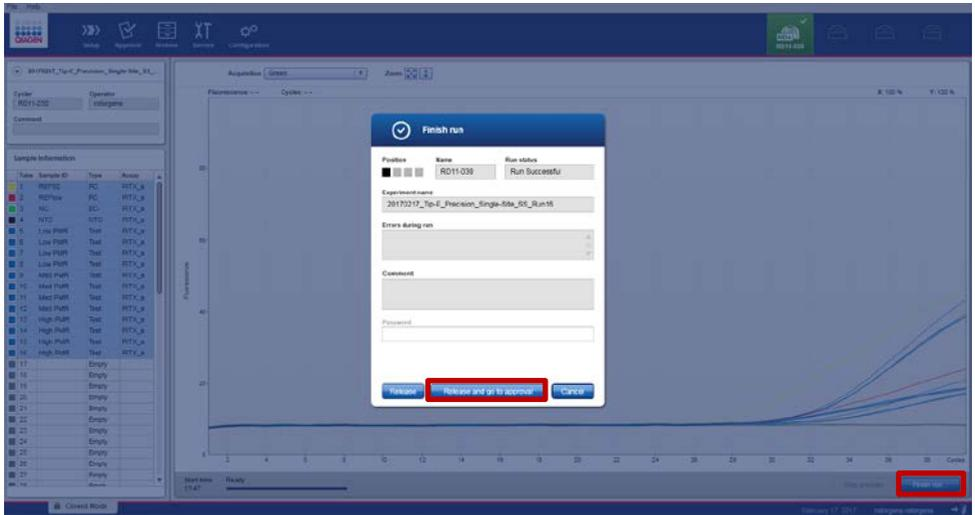

Figure 12. Finalization of the run.
2. After clicking "Finish run", enter the password and click "Release and go to approval" (Figure 12).